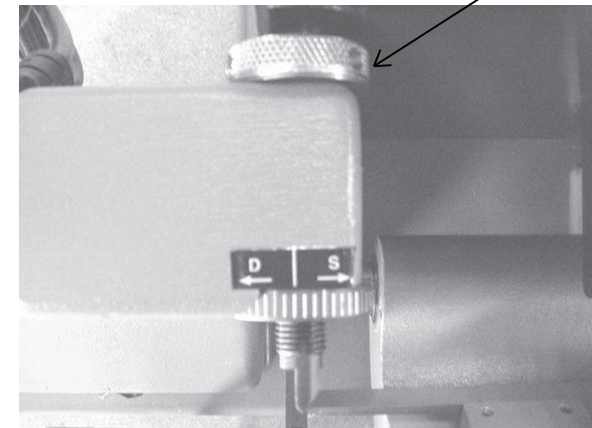

FIGURE 5
2. Loosen the jam stop (see figure 5).